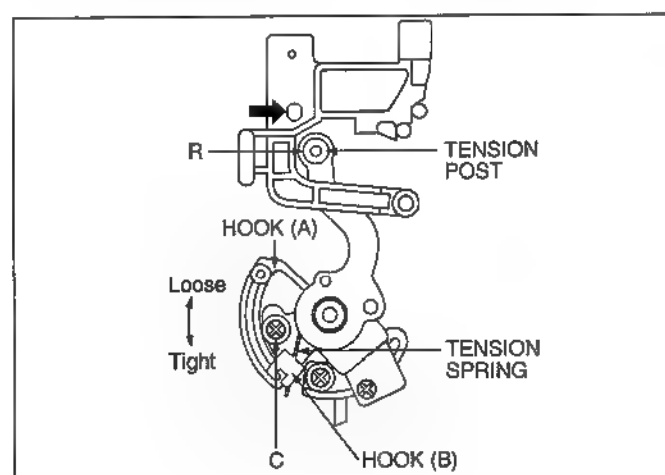

Fig. E-5
4. When pressing the R portion of the Tension Post in arrow direction by Dial Tension Gauge (VFK1188) until the voltage becomes 0.92V (Play Position) as shown in Fig. E-5, loosen screw (C) and adjust the Tension Regulator Spring position (Hook B) so that the tension is in the specification 11 +/- 1gf.
5. Tighten screw (C).
4. When pressing the R portion of the Tension Post in arrow direction by Dial Tension Gauge (VFK1188) until the voltage becomes -0.92V (REV Position) as shown in Fig. E-5, confirm the tension is in the specification 18 +/- 2gf.